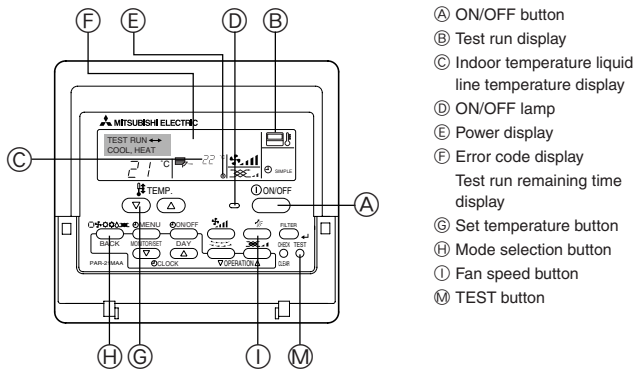

Fig. 6-1
6.2.1. Using wired remote controller (Fig. 6-1)
- ① Turn on the power at least 12 hours before the test run.
- ② Press the [TEST] button twice. ⇒ "TEST RUN" liquid crystal display
- ③ Press the [Mode selection] button. ⇒ Make sure that wind is blown out.
- ④ Press the [Mode selection] button and switch to the cooling (or heating) mode. ⇒ Make sure that cold (or warm) wind is blown out.
- ⑤ Press the [Fan speed] button. ⇒ Make sure that the wind speed is switched.
- ⑥ Check operation of the outdoor unit fan.
- ⑦ Release test run by pressing the [ON/OFF] button. ⇒ Stop
- ⑧ Register a telephone number.